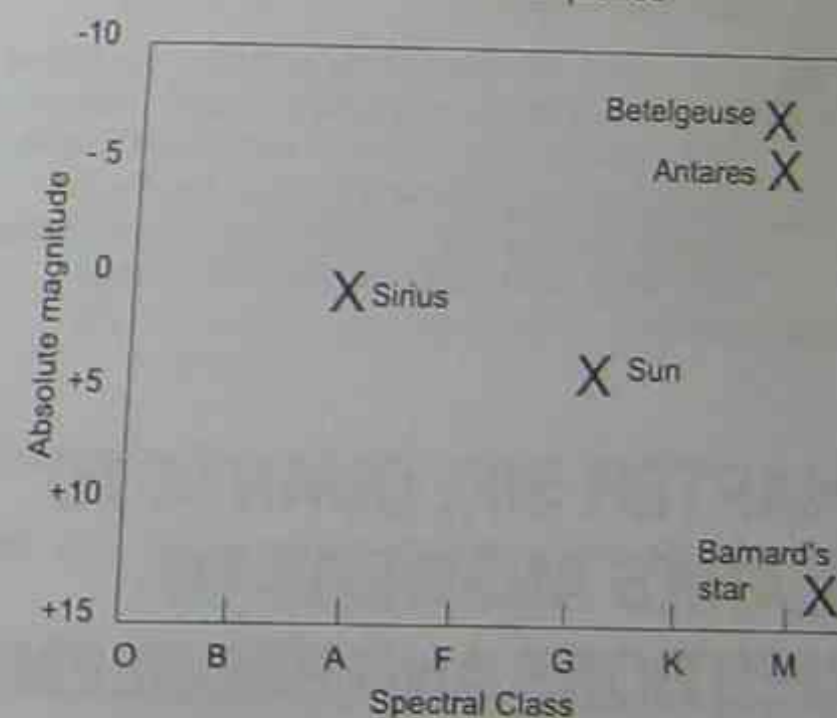

Figure 8.13
- (f) (i) See Figure 8.13 The following are the likely states: